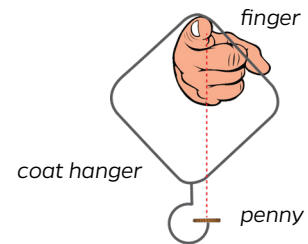

Figure 3
- b. Hang the coat hanger on your index finger so that the tip of the hanger's hook is pointing upward towards your finger. If needed, adjust the bend of the hanger's hook so the tip is pointing straight upward towards your finger (See Figure 3).